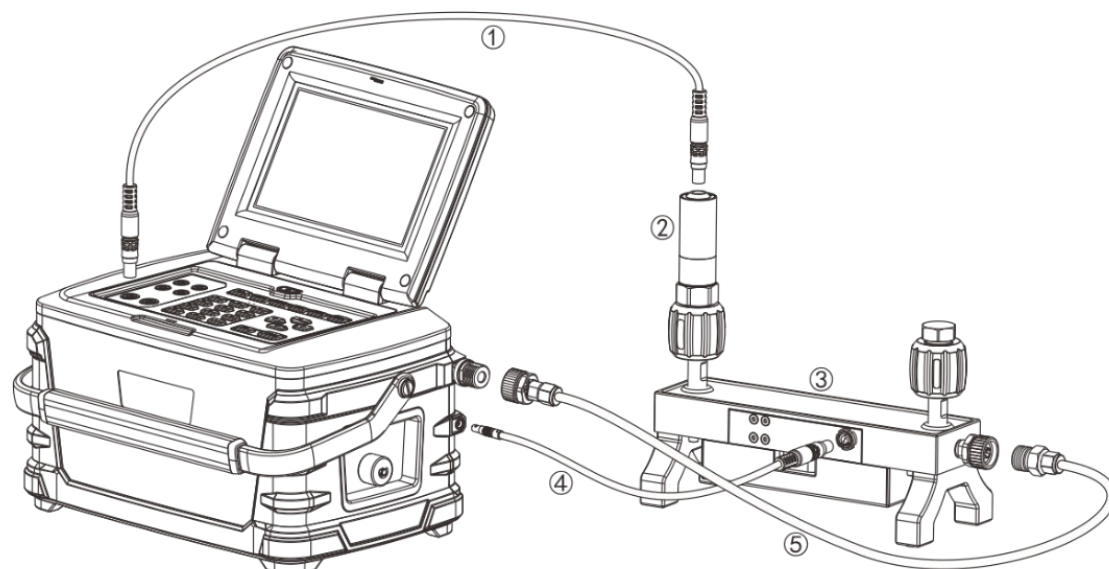

Figure 8 External pressure control connection (with ADT107 manifold)
2) Make connections with the ADT107 manifold and external modules, as shown in figure 8.